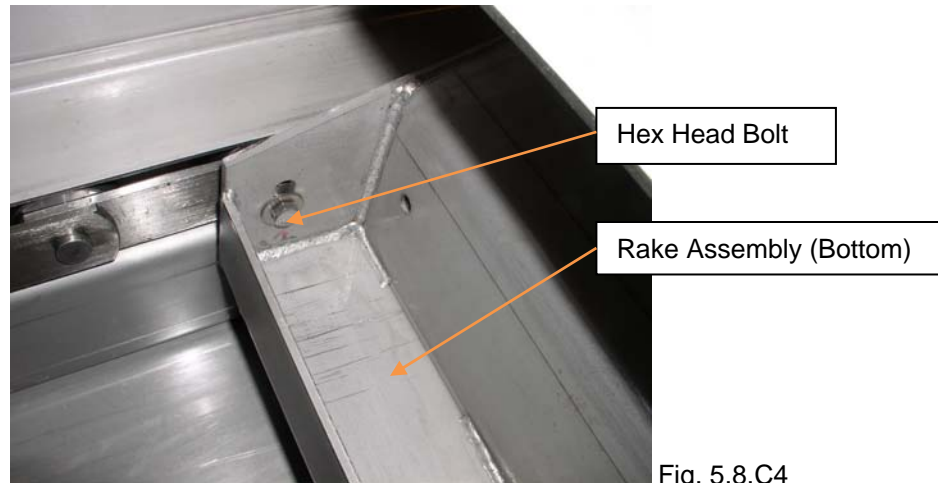

Fig. 5.8.C4
- On the chain being maintained, pull the master link apart and keep these pieces with the rake assembly. Take care not to drop these pieces! (Refer to Fig. 5.8.C for details.)